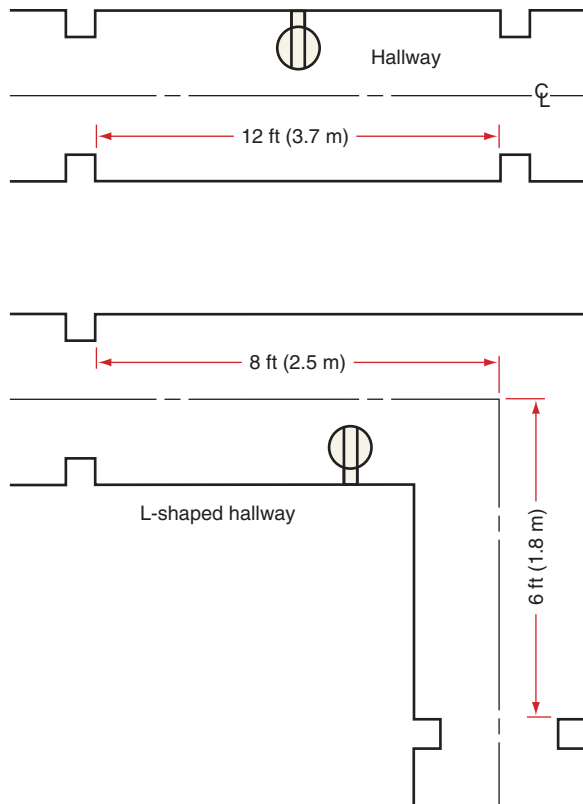

FIGURE 3-5 Determination of hallway length. Hallways 10 ft (3.0 m) or longer must have at least one receptacle outlet, 210.52(H). (Delmar/Cengage Learning)
- Hallways 10 ft (3.0 m) or longer in homes must have at least one receptacle outlet, 210.52(H). See Figure 3-5.